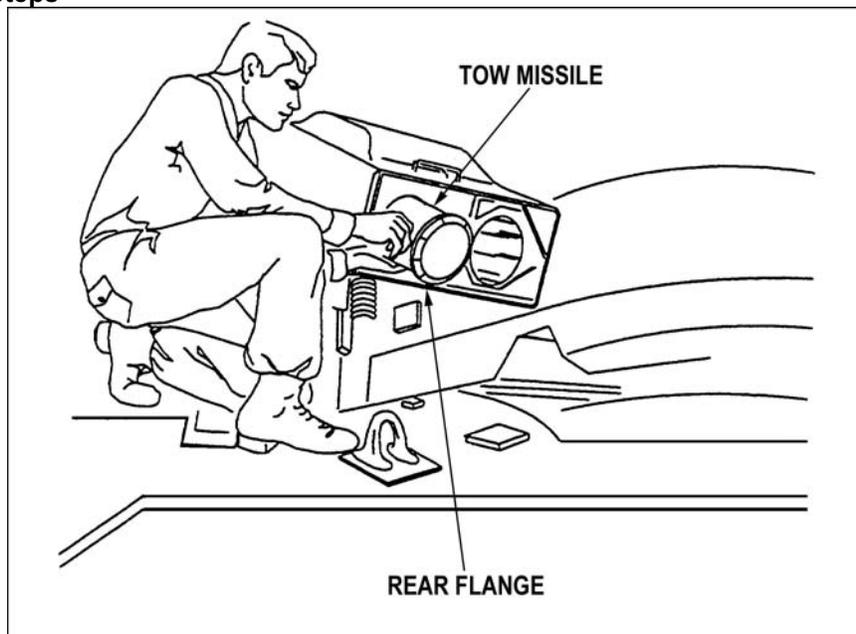

Figure 6. TOW missile rear flange.
- q. Remove misfired TOW missile from TOW launcher (Figure 6).